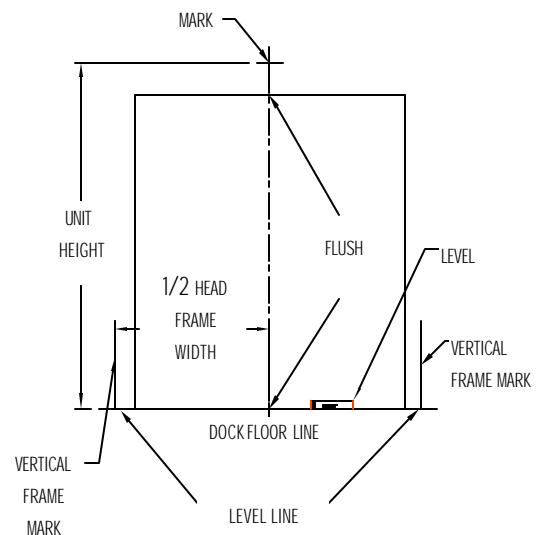

FIG. 1
- Take 1/2 the head curtain width and mark this distance on both sides of door's centerline (Fig. 1).